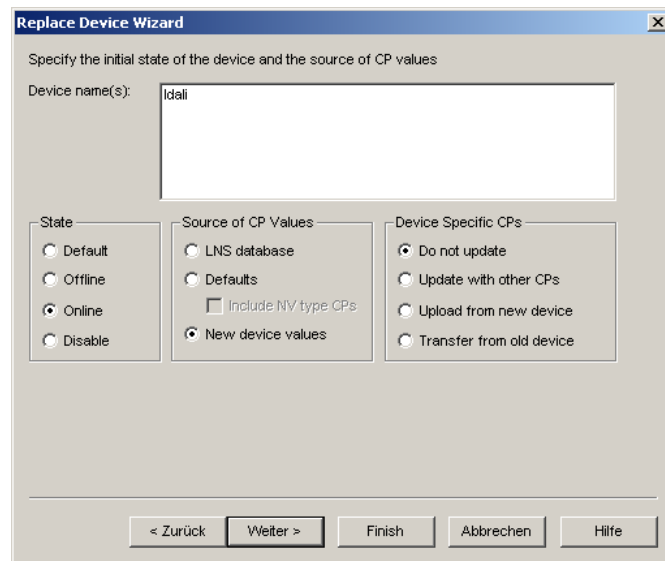

Figure 136: Select online state and source of CP values.
5. Then select **Online** for State and **New Device Values** for “Source of CP Values” as shown in Figure 136 and click **Next**.